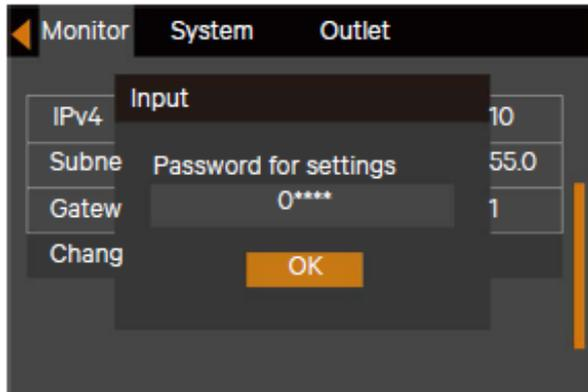

Figure 5-17 Password for settings
1. After powering on the UPS, at the main menu screen, press the  or  key to move the cursor to select 'Settings'. See Figure 5-17.